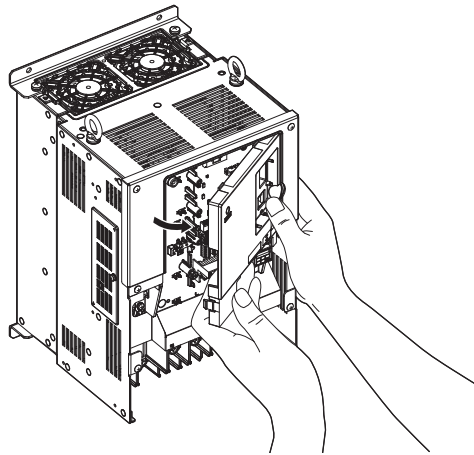

Figure 3.14 Remove the Front Cover (Models 2A0106 to 2A0432 and 4A0056 to 4A0225)
4. Unhook the left side of the front cover then swing the left side towards you as shown in Figure 3.14 until the cover comes off.